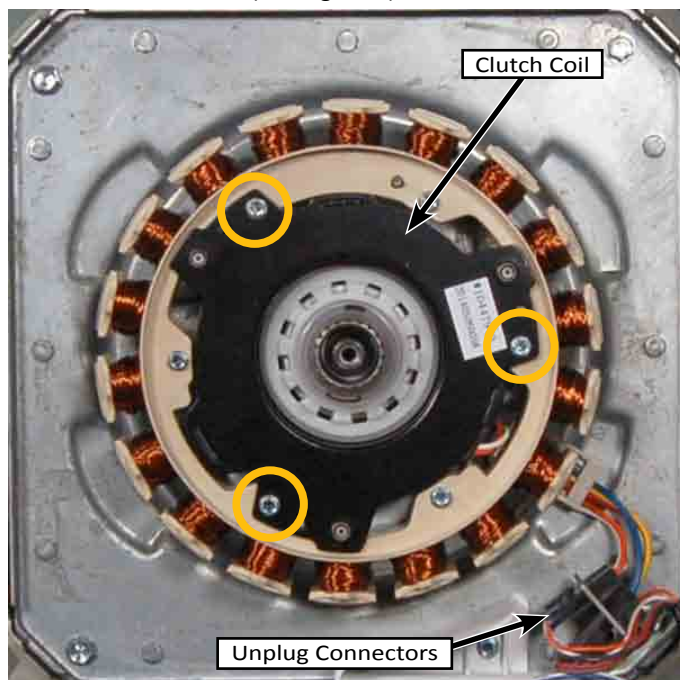

Figure 2
2. Unplug the clutch coil and stator connectors. Remove all connectors from the bracket (see Figure 2).
3. Use a 7mm socket to remove the three (3) clutch coil mounting screws. Allow the clutch coil to hang until the stator is removed (see Figure 2).